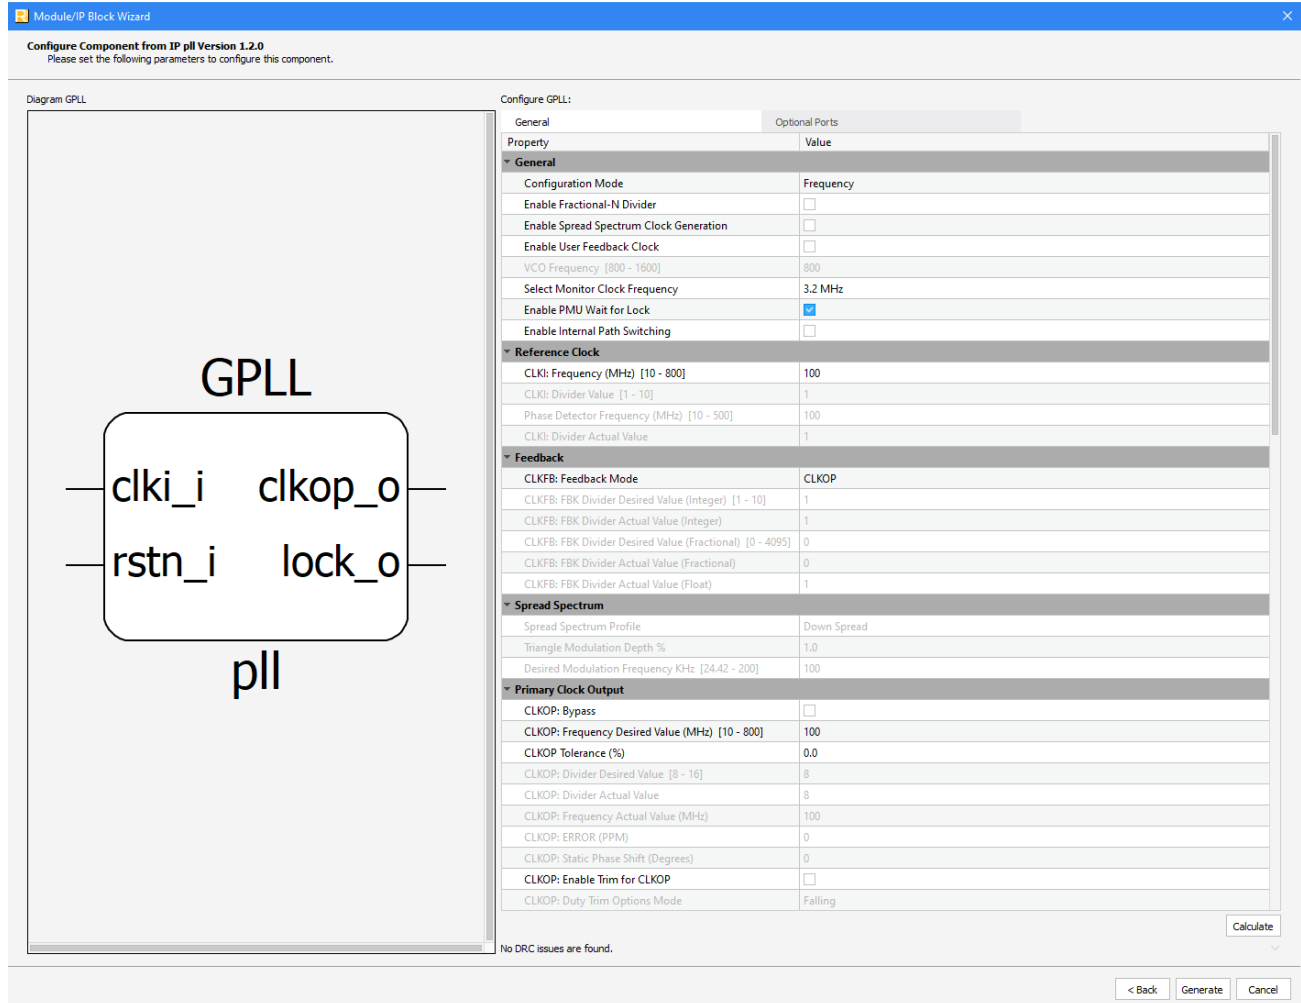

Figure 3.2. Configure User Interface of PLL Module
3. In the module’s dialog box of the **Module/IP Block Wizard** window, customize the selected PLL Module using drop-down menus and check boxes. As a sample configuration, see Figure 3.2. For configuration options, see the Attributes section.